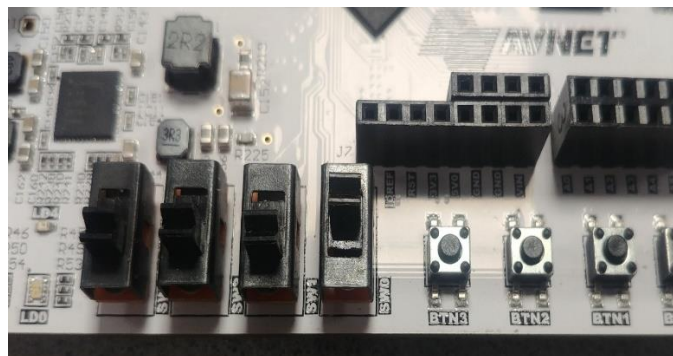

Figure 4: Switches to start the FPGA
7. To start the FPGA, set the switches, i.e. SW3 = SW2 = SW1 = ‘DOWN’, SW0 = ‘UP’, as shown in the Figure 4.